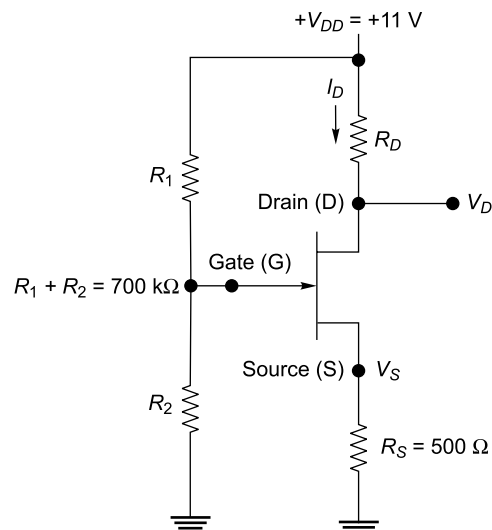

Fig. 1.88
43. Figure 1.88 shows a voltage divider biasing circuit of JFET. $I_{DSS} = 11 \text{ mA}$, $V_P = -5 \text{ V}$, $R_1 + R_2 = 700 \text{ k}\Omega$, $I_D = 6 \text{ mA}$, $R_S = 500 \Omega$ and $V_{DS} = 5 \text{ V}$, compute the value of R_1 , R_2 and R_D . Verify whether the JFET operates in saturation region. Assume $V_{DD} = 11 \text{ V}$.